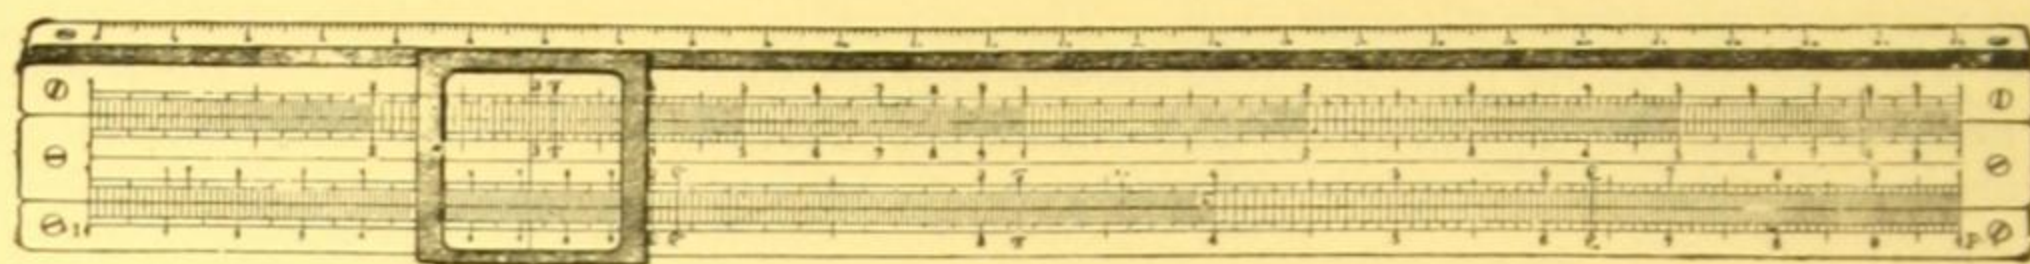

Fig. 157. "Standard" Slide Rule.
The "**Standard**" Slide Rule with white celluloid facings. Four logarithmic scales, A. B. C. & D. on the face, and on the reverse of the Slide, Scales of Sines, Tangents and Equal Parts. This Rule will enable calculations to be worked out in multiplication, division, proportion, combined multiplication and division, the finding of squares, square roots, cube and cube roots, the solution of plane triangles and trigonometrical computations, and the logarithms of numbers. Fig. 157.
SM 648.—**10-inch "Rietz" Slide Rule**, with white celluloid facings containing the same scales as the Standard Slide Rule Fig. 157, and in addition two scales of cubes and equal parts on the face and a central inverted scale on the slide enabling reciprocals of any number to be found directly, and for easily solving Inverse Proportion. The central scale on the reverse of the slide is a scale of small angles, Sines and Tangents, less than  $5^{\circ} 40''$ . In case..... Fig. 159   **£1 4 0**
SM 655.—**10-inch Anido Slide Rule** with white celluloid facings. This rule will perform all the operations that can be performed with the “Standard” Slide Rule Fig. 157, and in addition it possesses the following exclusive features (1) Scales whereby any number can be raised to any power whether positive, negative, fractional or integral. (2) Greatly improved scales of sines and cosines. (3) Logarithms to base  $e$ . Also other devices to make the user independent of mathematical tables. In case and booklet of instructions ..... **£1 10 0**